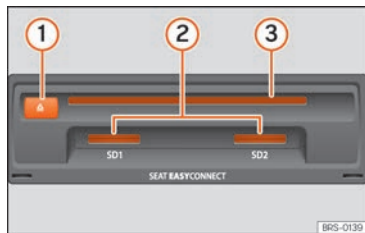

Fig. 194 Slots for data storage devices in the glove compartment.
- Push the CD into the slot » **Fig. 194 ③** to the point where it is drawn in automatically.
Insert the compatible memory card, bevelled edge first and with the label face up (contacts face down), into slot » **Fig. 194 ②** or » **Fig. 171 ⑨**, until properly inserted.